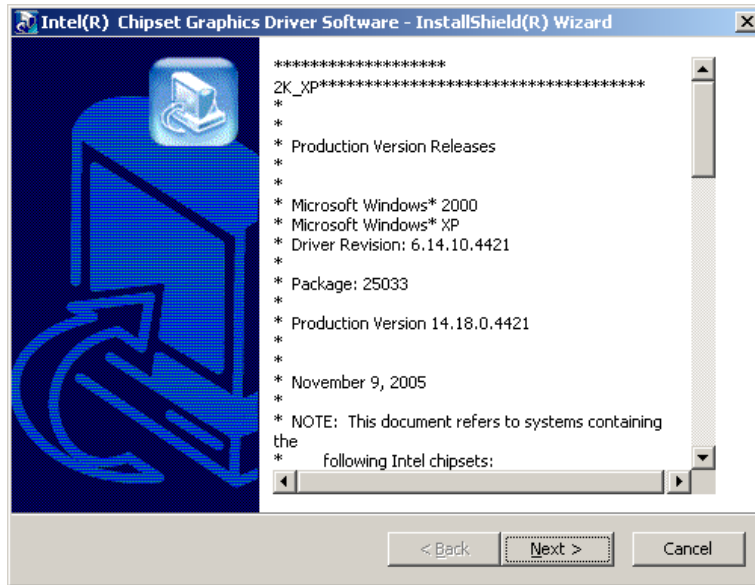

Figure 7-10: Intel® Graphics Media Accelerator InstallShield Wizard
Step 8: The **Readme** information file shown in **Figure 7-10** appears.